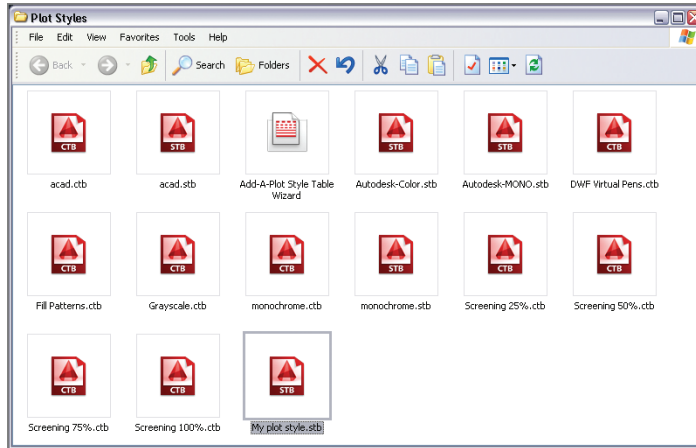

FIGURE 14.11 The newly named plot style table appears in Windows Explorer.
10. Click Finish to close the Add Plot Style Table wizard. The named plot style table you just created, `My plot style.stb`, appears in the Windows Explorer window that was opened in step 1 (see Figure 14.11). Click the close box in Windows Explorer.